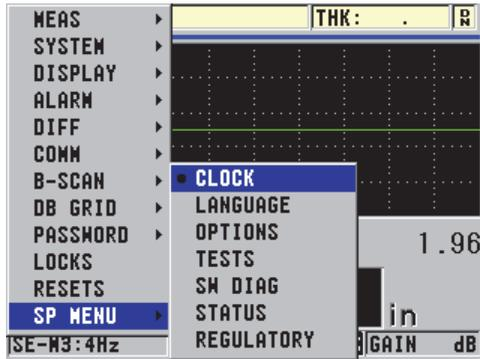

Figure 4-2 The SP MENU screen
2. In the SP MENU (see Figure 4-2 on page 43), select CLOCK.